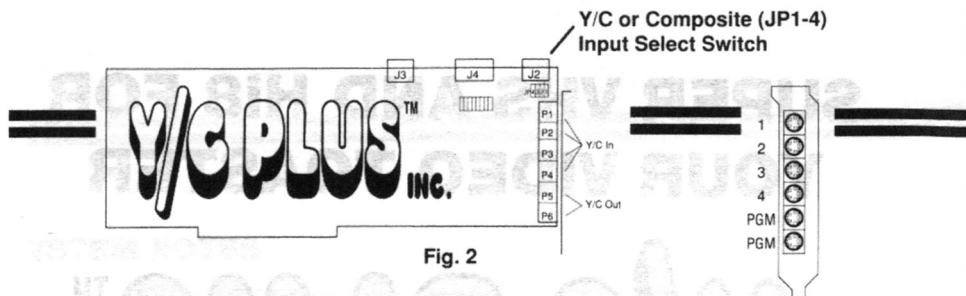

Fig. 2
- Solution:** Check JP-1 through JP-4 Input Select. (Fig. 2)